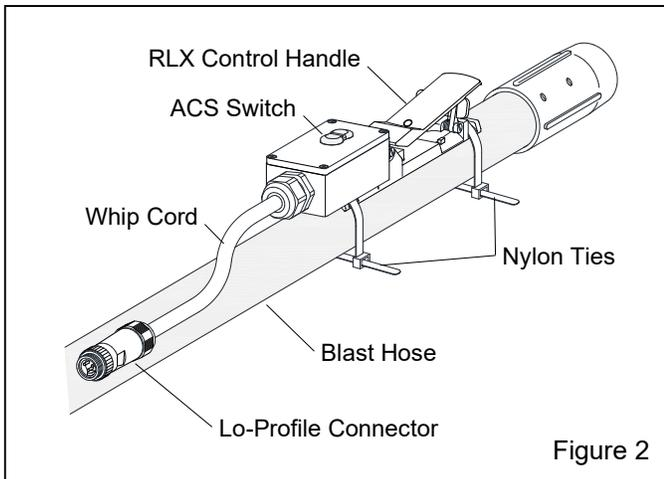

Figure 2
2.1 Band Control Handle to Blast Hose – Figure 2
2.1.2 Band the electric control handle to the blast hose at a comfortable location behind the nozzle holder, as shown in Figure 2. Use the two nylon ties provided or similar means to secure the control handle to the hose. Once the control is firmly attached, clip the tie ends so they do not snag the operator's clothing or interfere with the operation of the control handle.